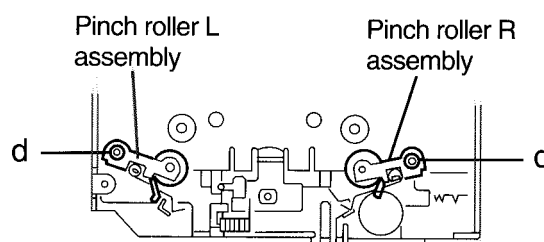

Fig. 5
■ Removing the Pinch Roller Assembly (See Fig. 5,6)